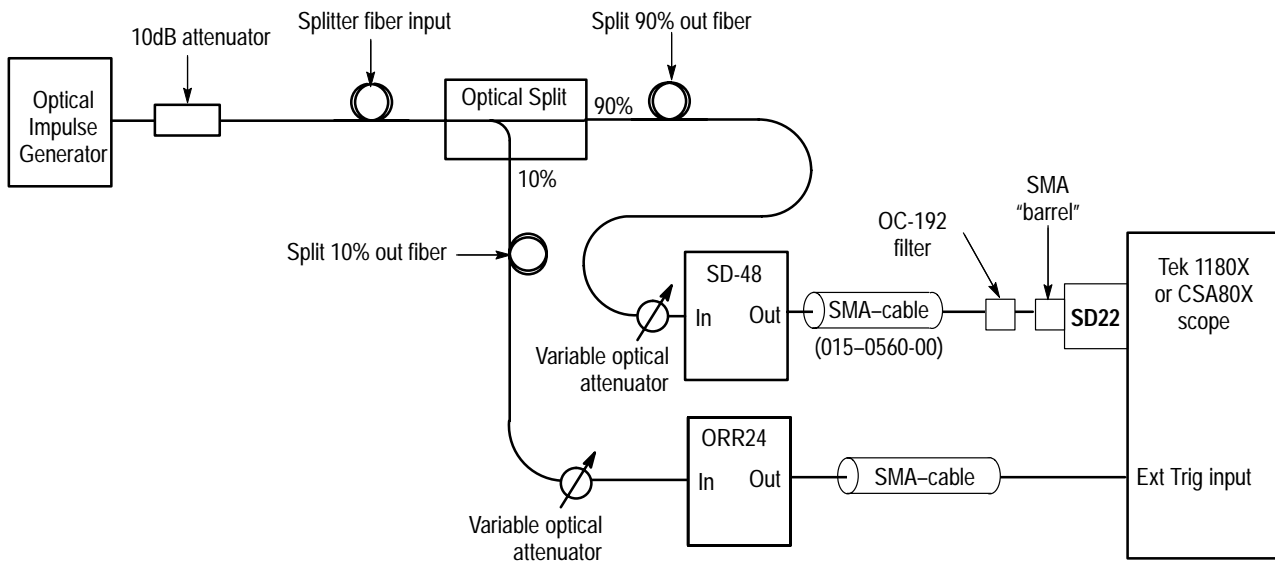

Figure 9: Setup for frequency response measurement, SD-48 Option RR for OC-192
- b. For an SD-48 with Option RR (OC-192), connect the equipment as shown in Figure 9. Note that this setup requires an SD-22 sampling head.